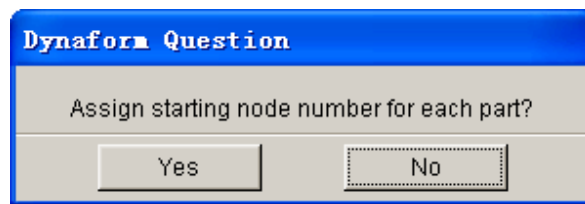

Figure 5.4.4 Starting Node Number Question
- Another DYNAFORM QUESTION window appears. See Figure 5.4.4.